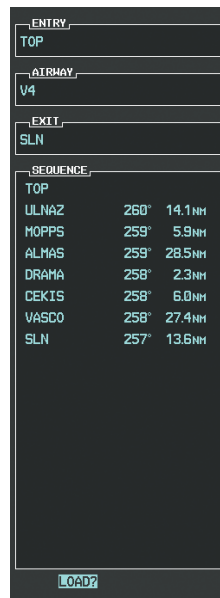

Figure 5-111 Ready to Load V4
- j) Press the **ENT** Key. The selected airway and exit are displayed, and the prompt “LOAD?” highlighted as in Figure 5-111.